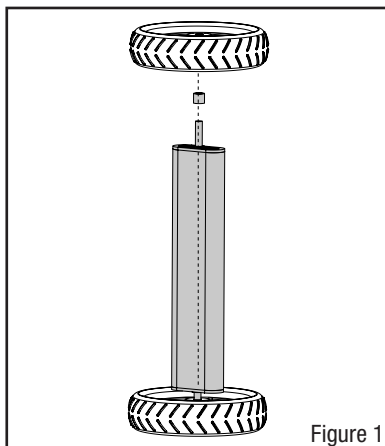

Figure 1
- Repeat the last step on the other end of the deck (see figure 1).